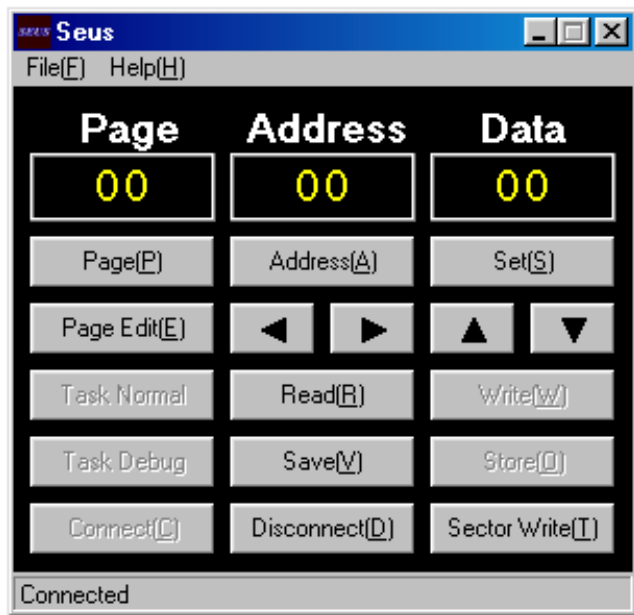

Fig. 6-1-9
- 5) Click **[Connect]** on the SEUS screen. If the connection is normal, the SEUS screen will be as shown in Fig. 6-1-9, indicating the "connected" state.